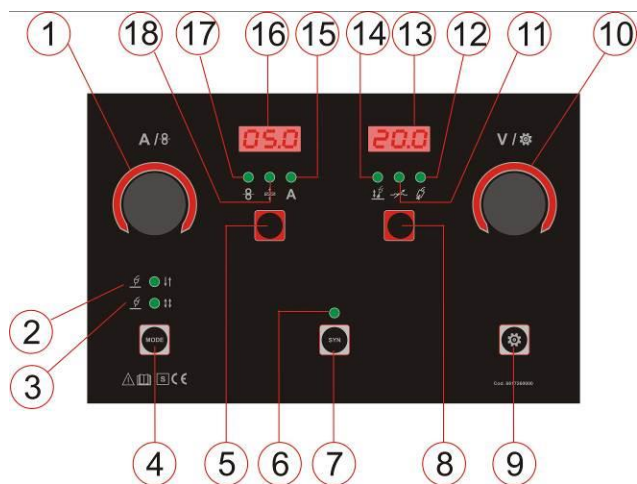

FIG.1
To weld in MANUAL MIG mode make sure that the synergic mode LED (Fig.1, ref.6) is off.
If it is on, press the SYN button (Fig.1, ref.7) until it turns off.
Then press the MODE button (Fig.1, ref.4) to select the MIG 2T (Fig.1, ref.2) or MIG 4T (Fig.1, ref.3) welding mode
Press the SYN button (Fig.1, ref.7) to activate the synergic mode.
The LED (Fig.1, ref.6) must light up.
Turning the right encoder V (Fig.1, ref.10) it is possible to change the program number
button in Fig.1, ref.5 until the reference LED lights up
ATTENTION: TO EXIT THE SYNERGISTIC MODE and RETURN TO MANUAL MODE, KEEP THE SYN BUTTON PRESSED (Fig.1, ref.7) FOR ABOUT 3 sec
Pressing the button  (Fig.1, ref.9) you access the adjustment of some secondary adjustments.
Press the button  (Fig.1, ref.9) until the **StA** appears on the right display.
With the **V** adjustment encoder (Fig.1, ref.10) it is possible to vary the value of the Sta da Aut function (AUTO which is the ideal value) up to 125.
Press the button  (Fig.1, ref.9) until **bb** appears on the right display.
With the **V** adjustment encoder (Fig.1, ref.10) it is possible to vary the value of the bb function from **Aut** (AUTO which is the ideal value) up to 100 ms.
Press the button  (Fig.1, ref.9) until **End** appears on the right display.